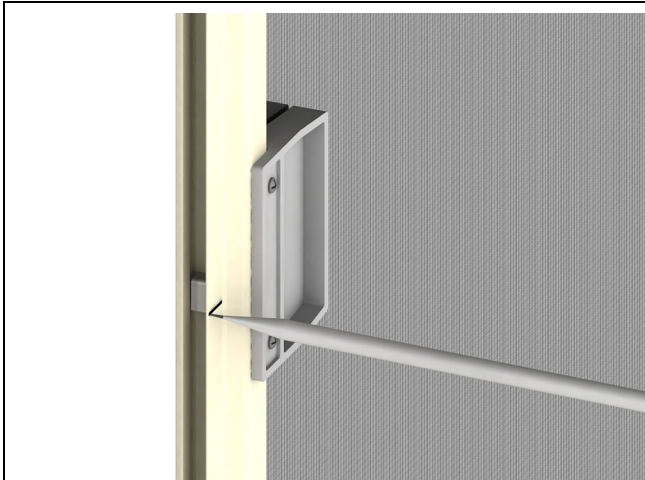

Figure 10
1. To install the screen lock on the screen astragal, raise (unlock) the screen latch. Open the screen and lightly mark the bottom location of the latch with a pencil on the exterior face of the screen. Close the screen against the astragal. See Figure 10.